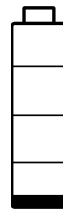

FIG. 3
- A Banner - Unique identification. For instructions on assigning a name to the meter (A), see **Utility Menu Screen**, **Banner** beginning on page 18.
- B Battery Indicator - When the batteries are fully charged, the battery icon (B) is completely filled in. As the battery discharges, the amount on the battery icon declines. When the low battery symbol is shown (FIG. 3), replace the batteries. See **Battery Replacement**, page 22.